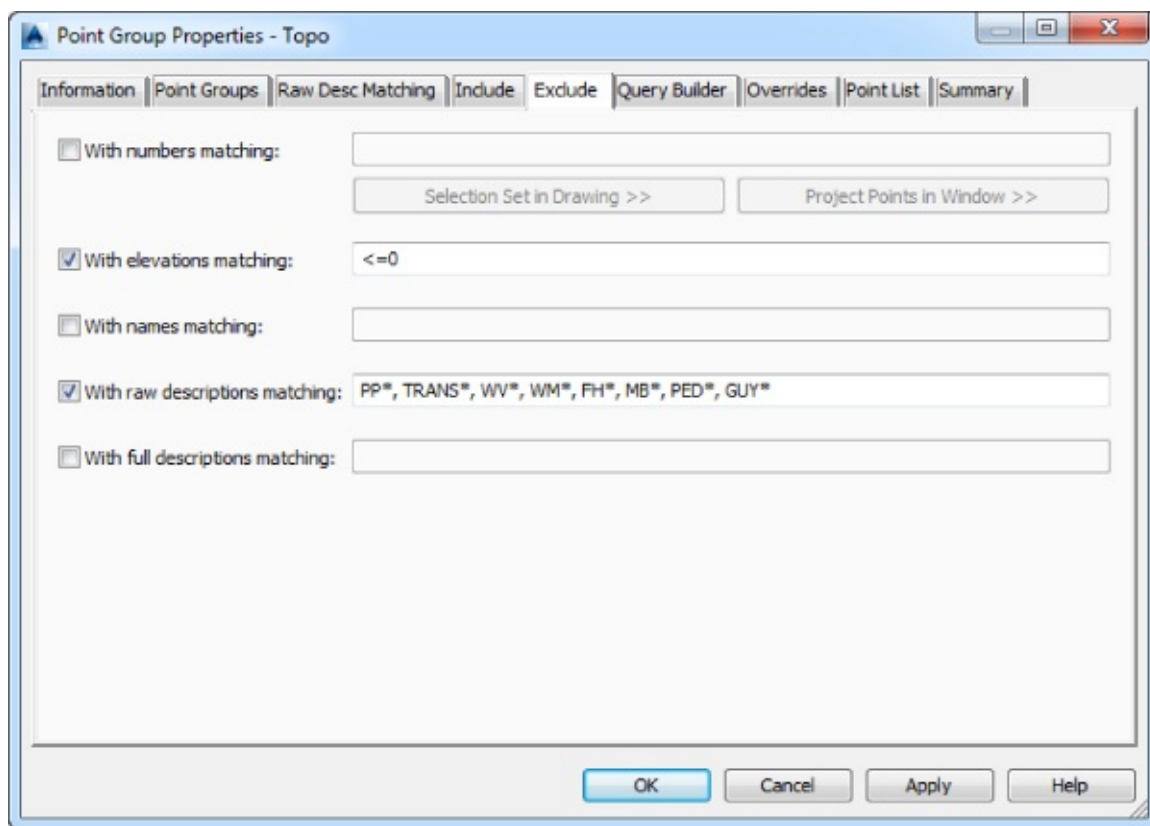

Figure 3.25 Use Exclude to create a Topo point group.
23. Type PP*, TRANS*, WV*, WM*, FH*, MB*, PED*, GUY* in the accompanying field, as shown in Figure 3.25, and click OK. You may need to use the AutoCAD REGEN command to refresh the graphic and show your points again.